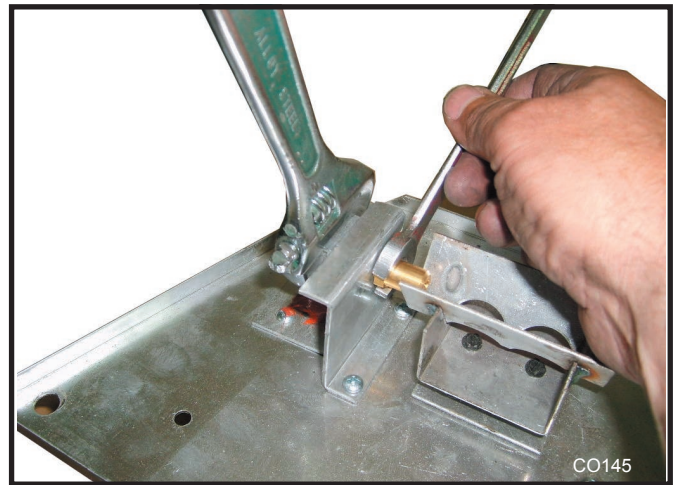

Fig. 73 Use two wrenches to avoid damage to manifold.
3. Remove injector orifice from left burner bracket with a 1/2" wrench. Use a back up wrench to prevent damage to the manifold. (Fig. 73)